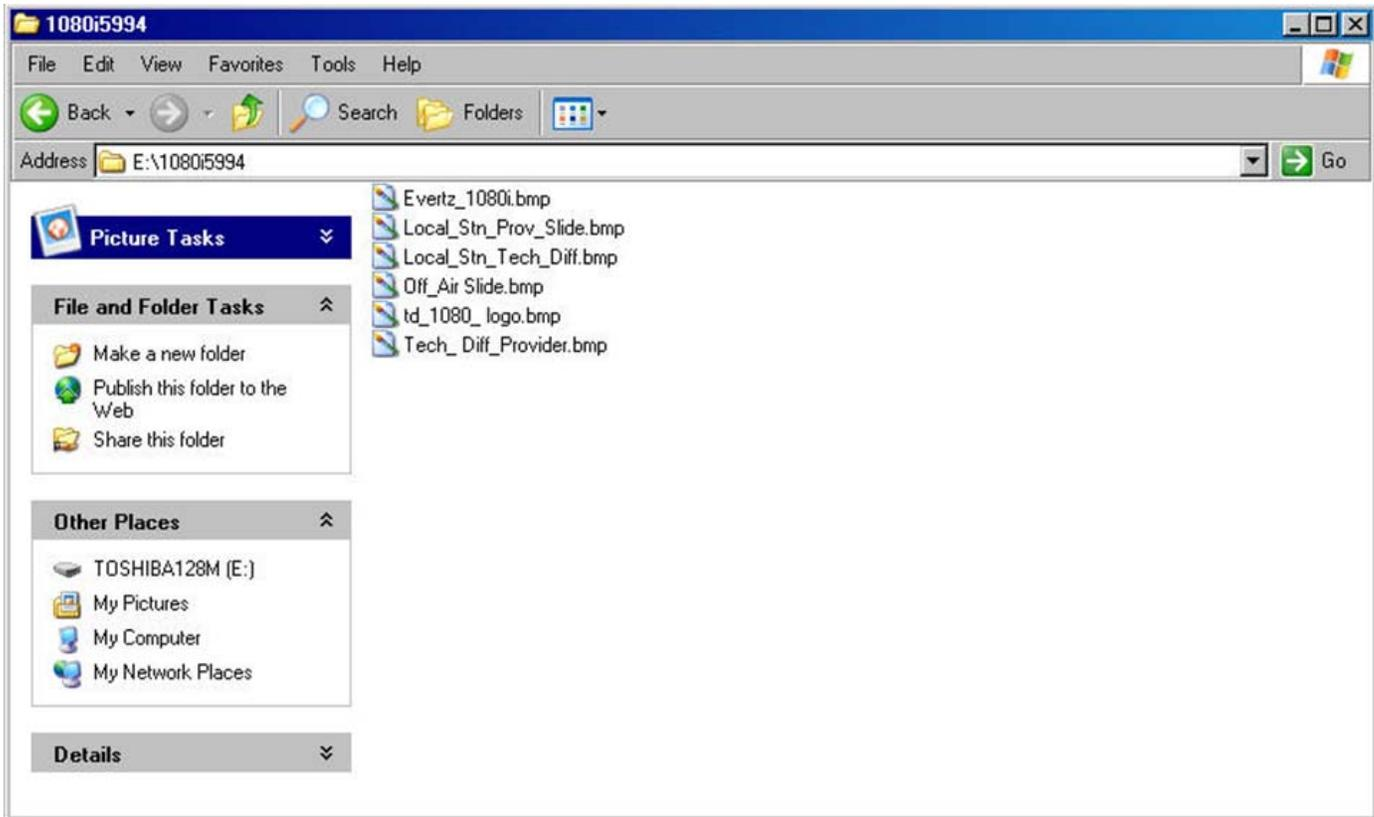

Figure 5-7: The 1080i5994 Video Standard Directory
7. For bitmap files, the user should select the appropriate video standard directory. The user will place any user created .bmp files into this directory. This can be done by either dragging the file into this directory or cutting and pasting the file. The user should verify the file was properly transferred by opening the file from compact flash (by double clicking the file). Figure 5-7 shows the directory (**1080i5994**) for the video standard 1080i/59.94.